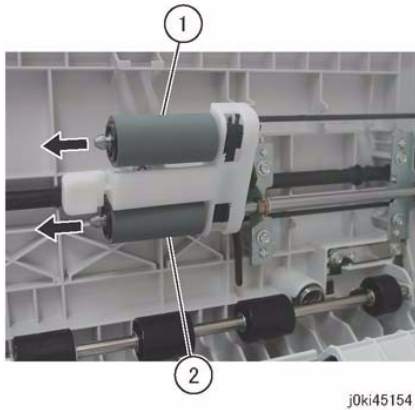

Figure 4 Nudger/Feed Roll Removal
- Remove the Nudger Roll and the Feed Roll. (Figure 4)